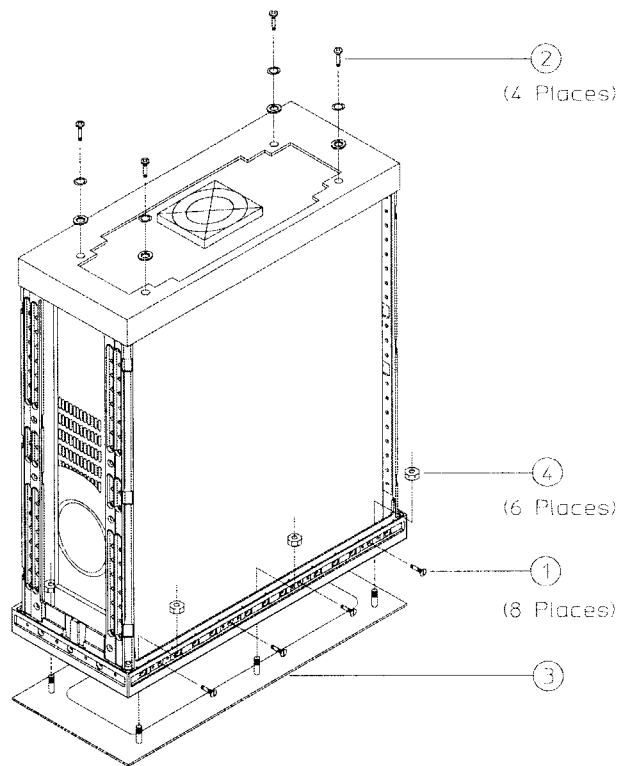

Figure 3
11. Place the rack frame over the instrument as illustrated in Figure 3. The rack front frame should have a deeper groove on the bottom side.
12. Attach the rack frame to the front support using eight M3.5 x 0.6 x 8 mm screws (1) See Figure 3.
14. Tip assembly on one side. Install the dress panel (3), and secure it with six nuts (4). Use a 7 mm driver, use the spring clips instead of the nuts. Apply spring clips over the studs with needle nose pliers See (3) in Figure 3.